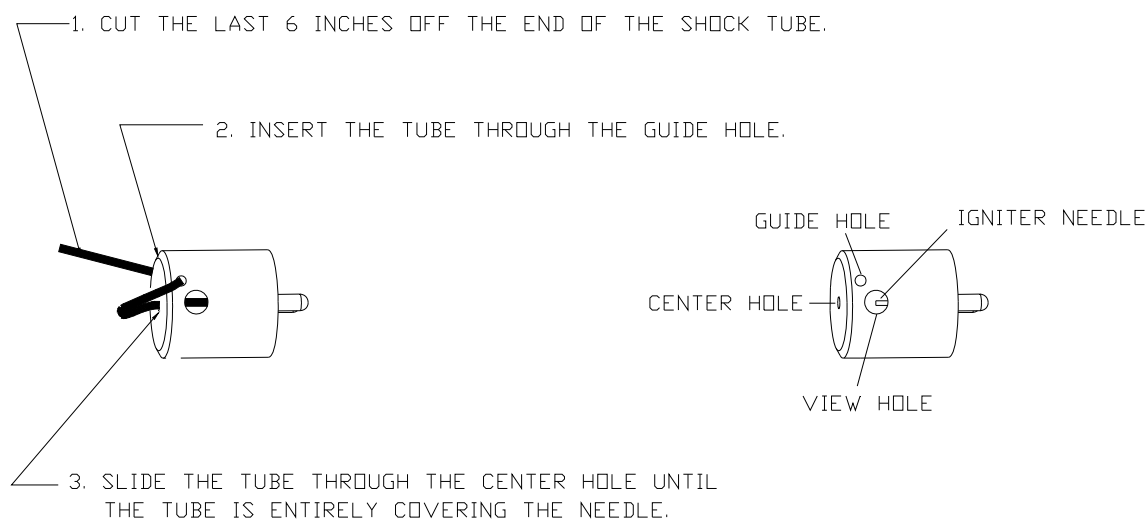

Figure 2-8 Shock Tube Tip
2.6.4. Figure 2-8 shows the installation of the shock tube onto the shock tube firing tip when preparing for use. Care should be taken when handling the shock tube to prevent the incursion of debris or moisture into the tube.
2. Insert the shock tube through the guide hole on the tip as shown in Figure 2-8. The guide hole secures the tube to the tip and prevents pulling out.